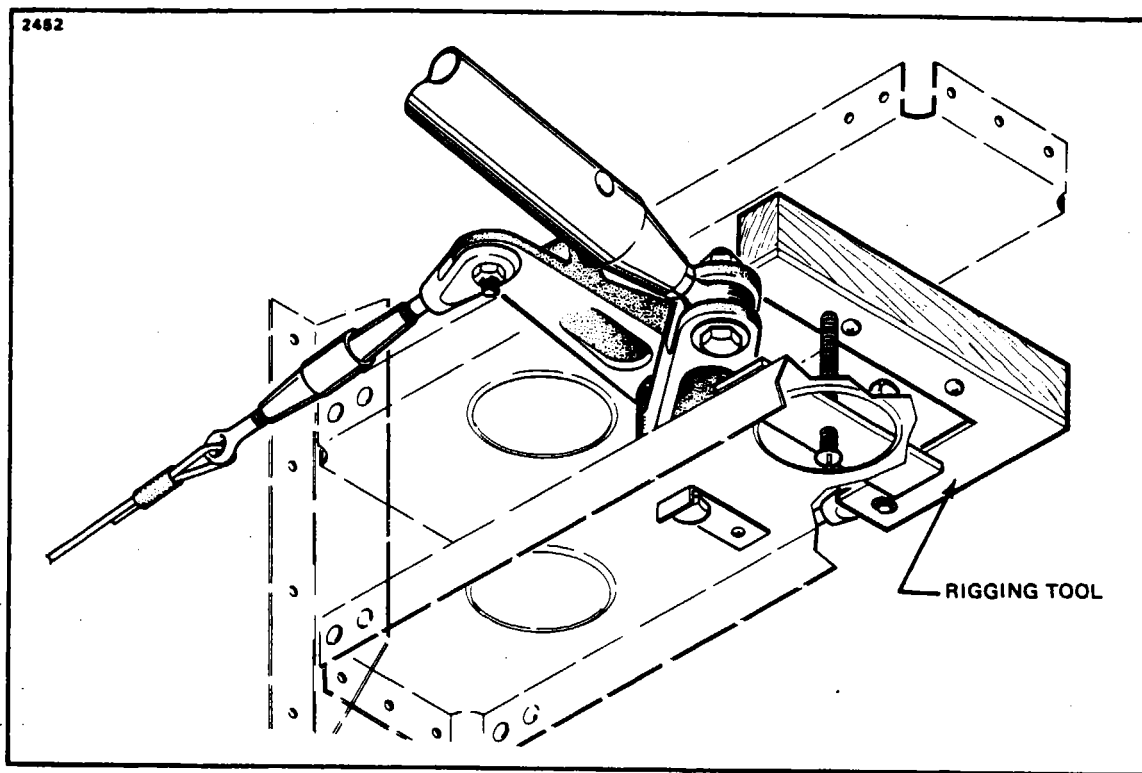

Figure 5-4. Installation of Aileron Bellcrank Rigging Tool
5-13. RIGGING AND ADJUSTMENT OF AILERON CONTROLS. (Refer to Figure 5-4.)
a. To rig the aileron controls, set the right and left aileron bellcranks in neutral position by attaching a fabricated aligning tool within both wings as shown in Figure 5-4. (This tool may be fabricated from dimensions given in Figure 5-16.) The fabricated tool may be installed by the following procedure: